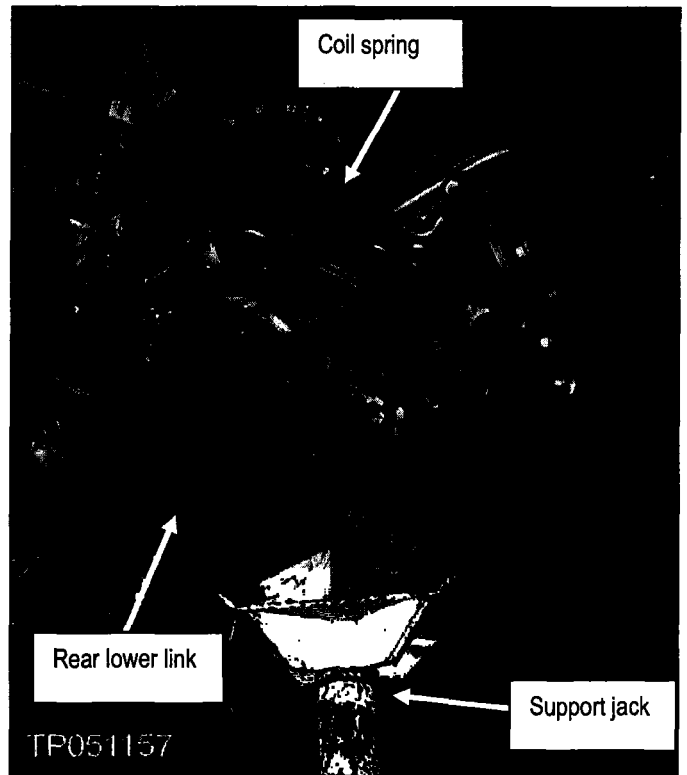

Figure 26
- e. Slowly lower the support jack to release the coil spring tension and then remove the coil spring (see Figure 26).